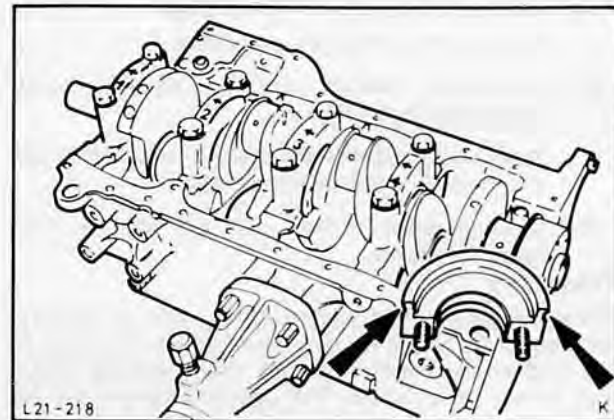

Fig. 98. Apply sealing compound to main bearing cap contact face
32. Apply thin coat of sealing compound (Part No. A 70SX-19554-BA) to main bearing cap contact faces, Fig. 98, position main bearing caps complete with oiled bearing shells, rear main bearing cap on rear of contact face. Ensure thrust rings are fitted to centre bearing.